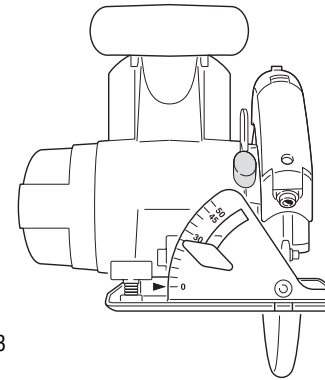

FIG. 3
- Use the wrench to tighten the clamping screw while pressing down on the clamping knob (see Fig. 3 and Fig. 4).
- Use the wrench to loosen the clamping screw while pressing down on the blade safety lock button (see Fig. 3 and Fig. 4).